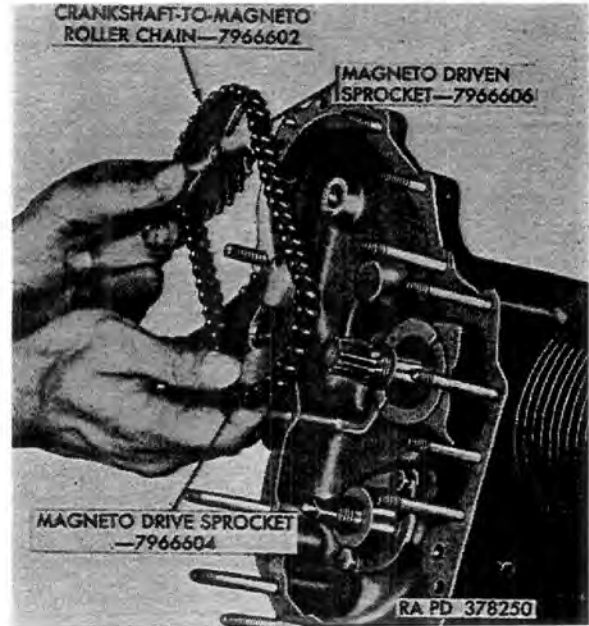

Figure 23. Removal of crankshaft-to-magneto chain and sprockets.
c. Remove Magneto Drive Sprocket, Driven Sprocket, and Chain. Slide sleeve spacers (E and P) from crankshaft and camshaft. Remove magneto drive chain and sprockets simultaneously (fig. 23). Remove crankshaft thrust washer (B) from cylinder